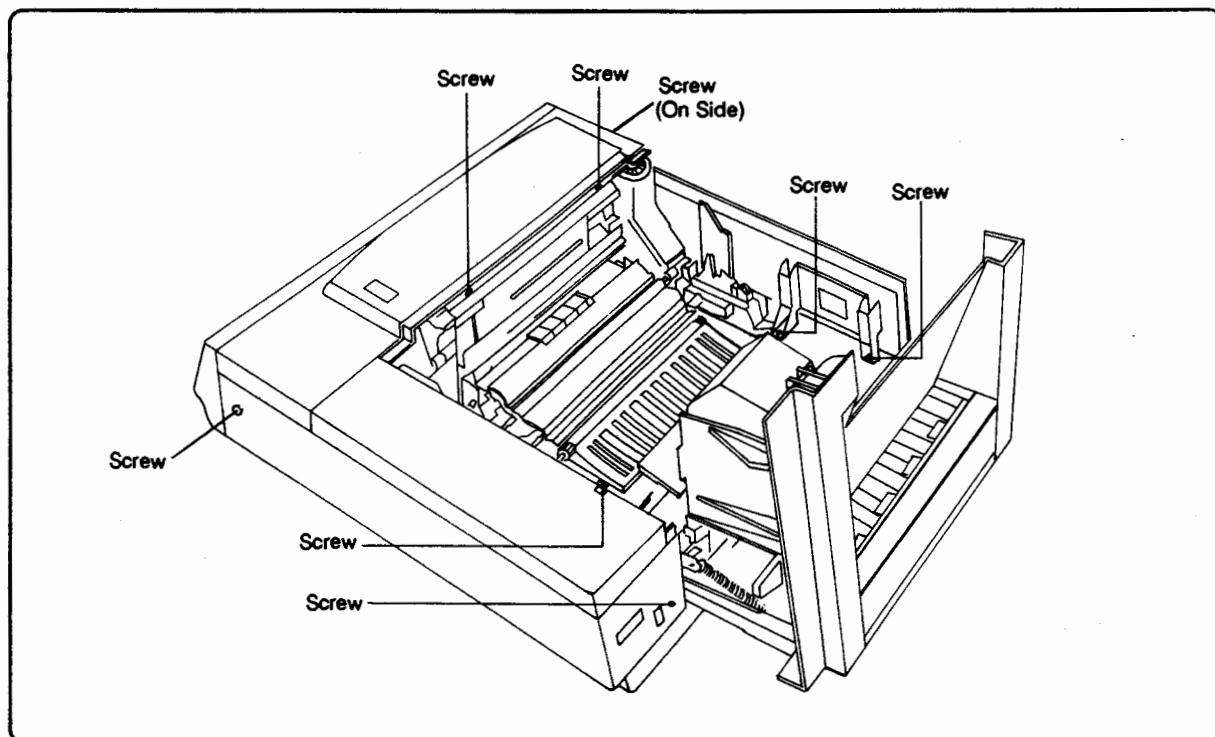

Figure 6-6. HP 33440 Main Body Covers Assembly
2. Remove screws (8) securing the Main Body Covers Assembly (see Figure 6-6).